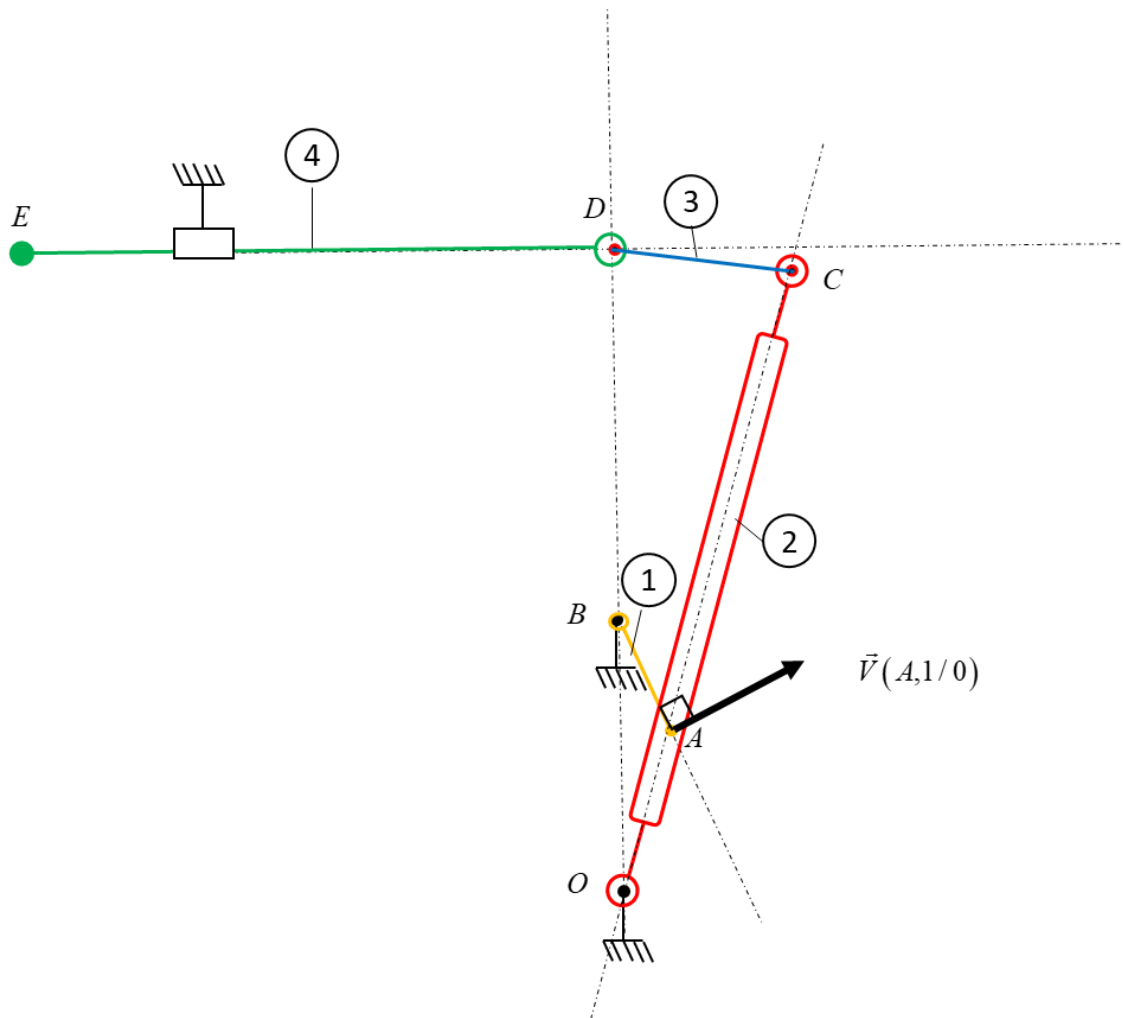

Figure 5 : Figure for graphical construction
For all the questions in this section, the graphical constructions **will be represented in Figure 5 (annex 1)** and the associated justifications will be given in the **answer boxes** below.
- a)** $\vec{V}(A,1/0)$ is given in Figure 5 (Annex 1), justify the direction of this vector.